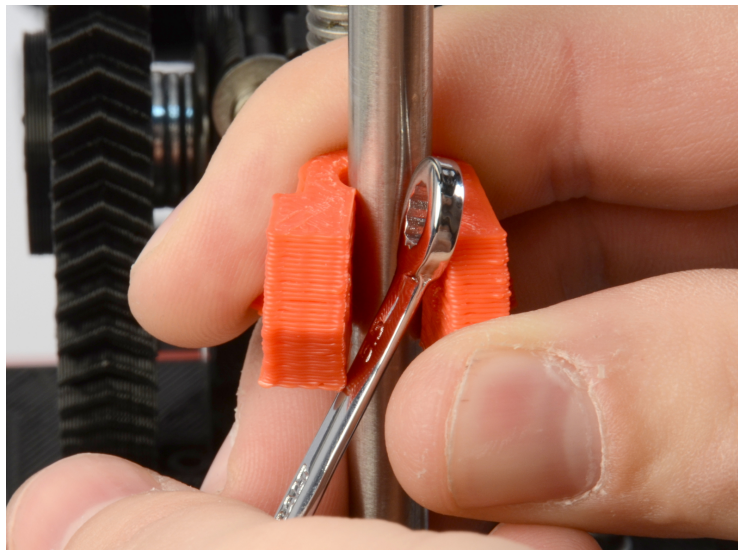

Figure 3: Using a wrench to pry off the shipping clamps
11. Loosen and remove the wing nut and screw on each of the four clamps. Remove each of the four clamps by popping them off of the smooth rod. Use a screwdriver or wrench to pry open and remove the clamps if you have trouble removing them by hand (Fig. 3). Keep the clamps and hardware for future use if you need to ship or transport your printer.